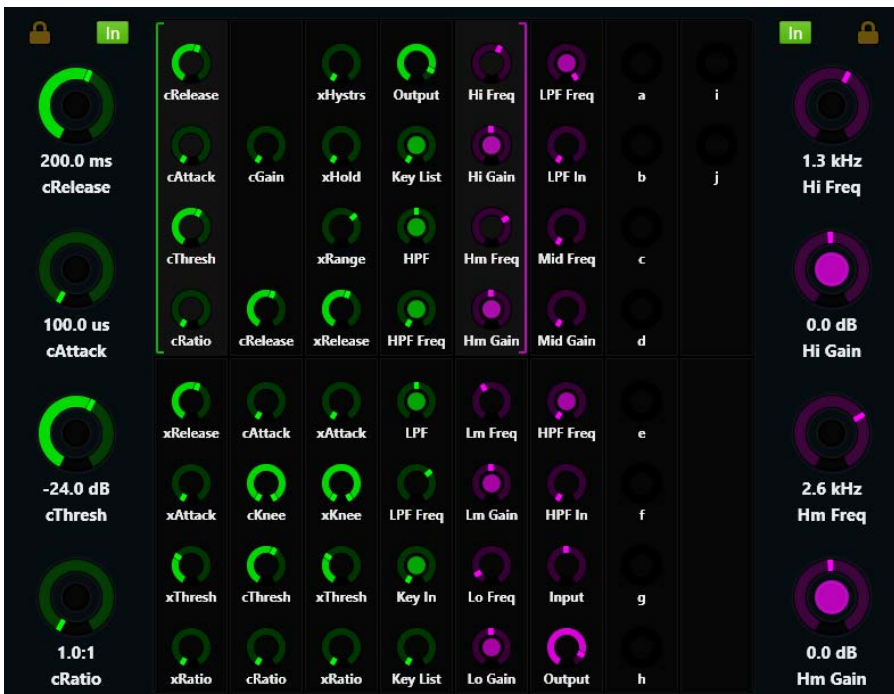

Figure 20. Function Editor
- A left bracket (green in Figure 20) indicates the controls to its right are assigned to the left Attention Track Knobs.
- A right bracket (purple in Figure 20) indicates the controls to its left are assigned to the right Attention Track Knobs.